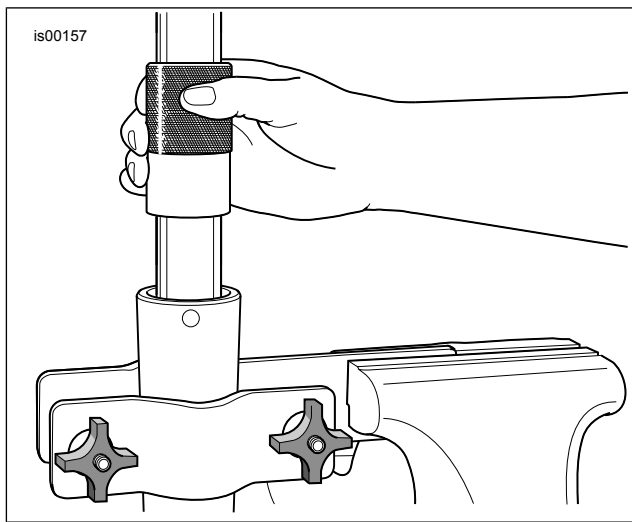

Figure 5. Install Fork Oil Seal
2. Place rebound spring (D) over damper tube (2) and insert damper tube into slider tube (E).
3. Insert new spring (1) into slider tube (E) with the dense coil end down. Push damper tube (2) through opening at the bottom of the tube using the spring. Place the lower stop (M) over the end of the damper tube.
5. Install the screw (Q) into the bottom of the slider (N, O or P). Move the slider tube through its full range of travel within the slider several times to verify proper component alignment. Then, applying downward force on the spring and tighten the screw. Tighten screw to 15–25 N·m (12–18 ft-lbs).
6. Place the upper bushing (L), spacer (K) (concave side downward), oil seal (J) (lettering side upward), and FORK SEAL AND BUSHING INSTALLATION TOOL (Part Number HD-36583) over slider.
7. See Figure 5. Install bushing, spacer and seal into slider bore by tapping components downward with the installation tool.
8. Install internal circle clip (I) into groove in top of the slider bore.
9. Install dust seal (H) and cover (G) at the top of the slider.
10. Install drain screw (R) into the lower end of the slider. Tighten the screw to 8–11 N·m (72–96 in-lbs).
11. Remove main spring (1) from slider tube (E).